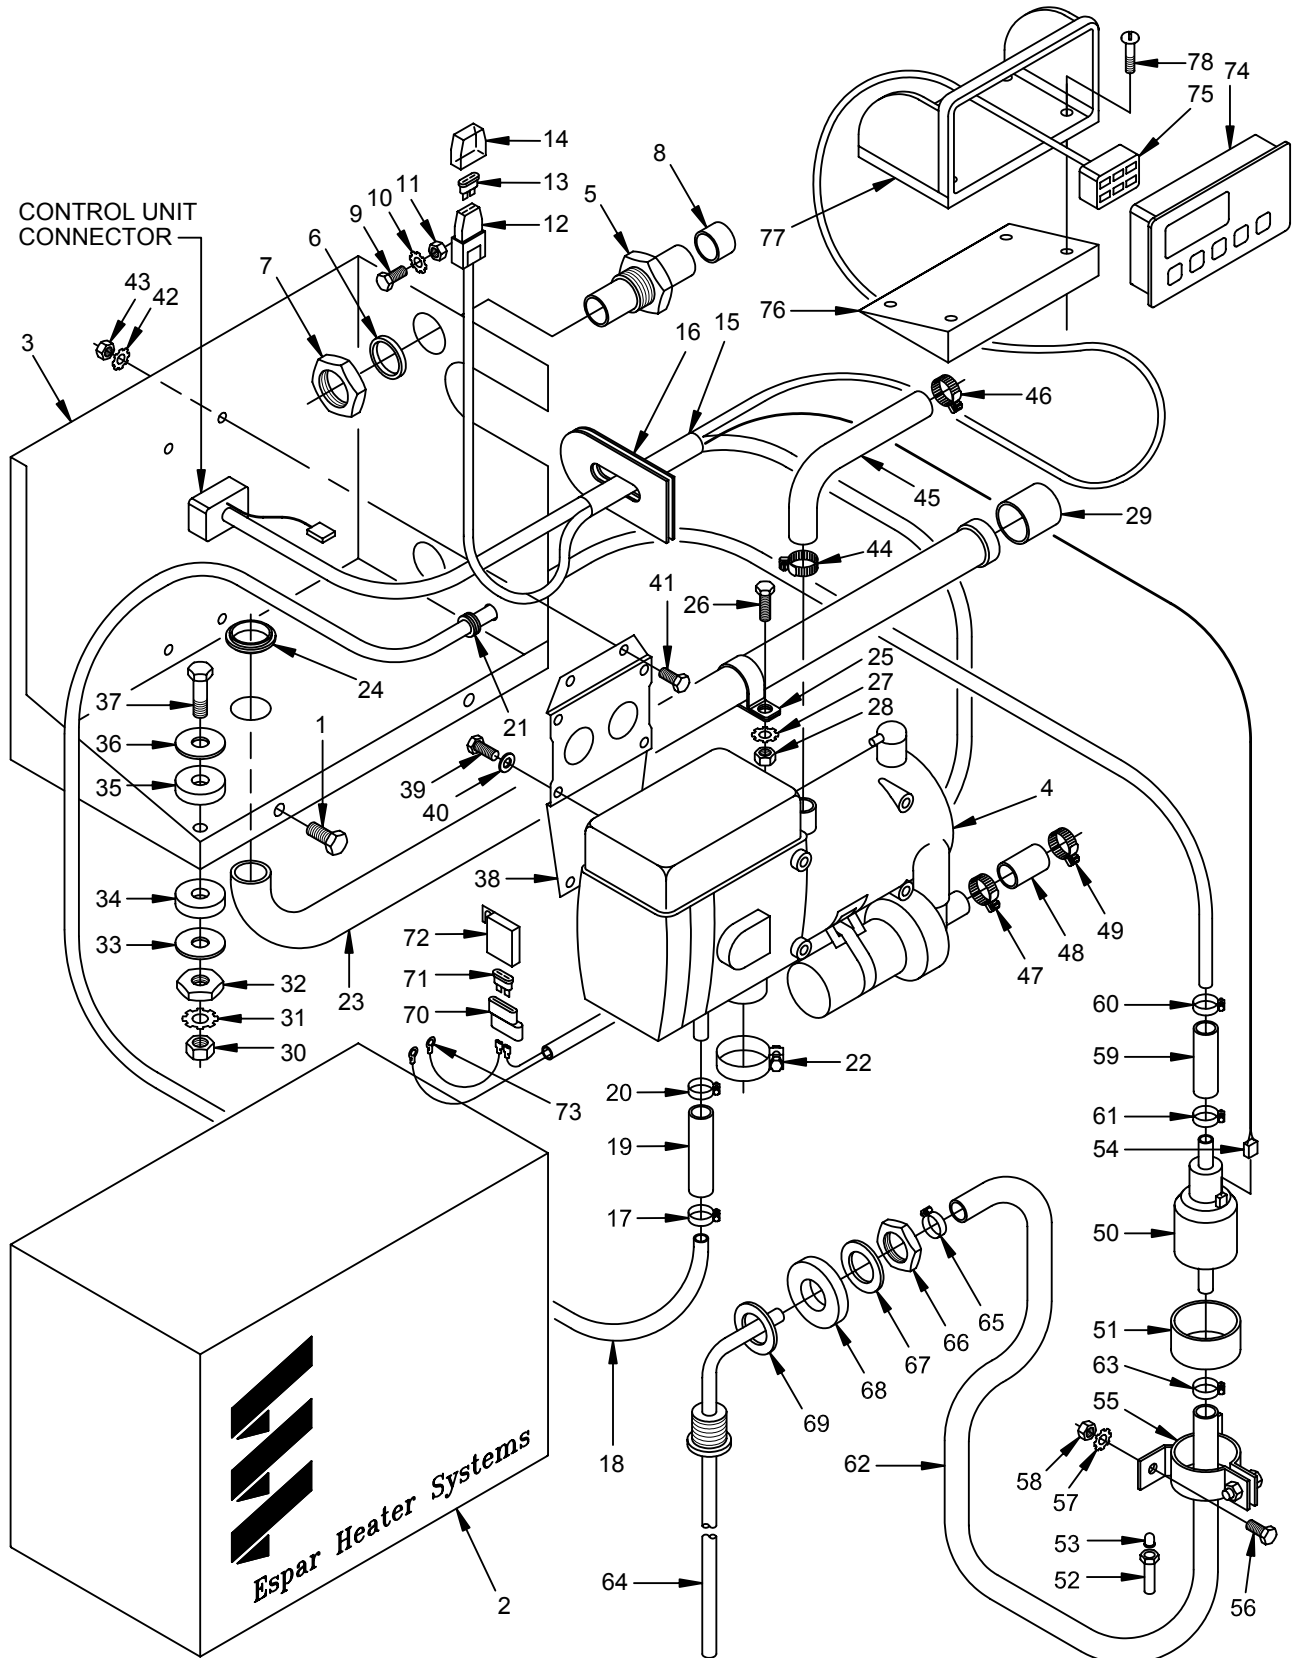

Figure J-19. Espar Coolant Heater Installation (Sheet 1 of 2)
- b. If removed, route glow pin harness (32) as removed and secure with new tie wraps (23).
- c. Connect glow pin harness (32) to glow pin (30) with nut and washer (part of glow pin).
- d. Install coolant heater control unit (2) as described above.
- e. Replace cover (2, Figure J-19) on boxed enclosure (3) and secure with two bolts (1).
Overheat Sensor. (Refer to Figures J-19 and J-20.)
- b. Remove two bolts (1, Figure J-19) and remove cover (2) from boxed enclosure (3) of the coolant heater (4).
- b. Connect wiring from overheat sensor (12) as tagged. Remove tags.
- c. Install cover (9), lockwashers (8), and screws (6). Install new tie wrap (23).
- d. Replace cover (2, Figure J-19) on boxed enclosure (3) and secure with two bolts (1).